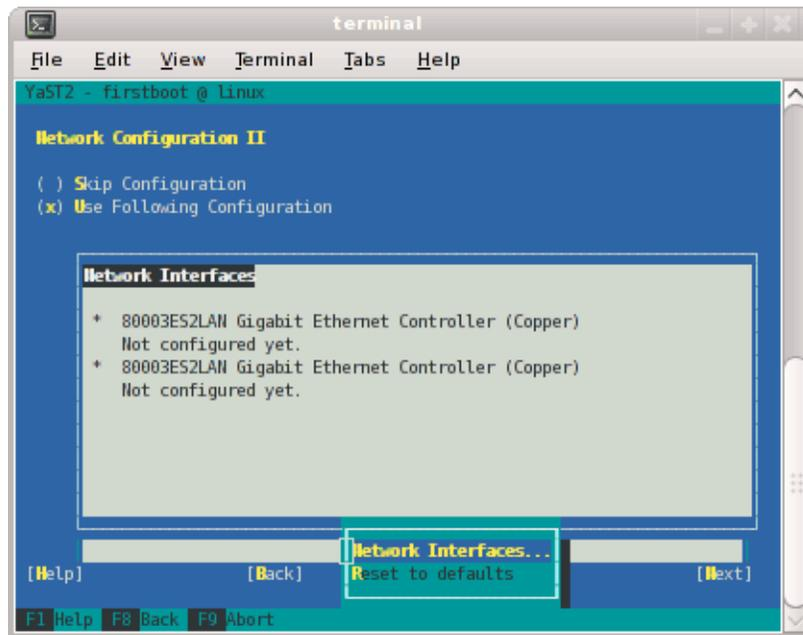

Figure 1-5 Network Configuration II Screen
6. The **Network Configuration II** screen appears, as shown in Figure 1-5 on page 6. Select **Change** and a small window pops up that lets you choose **Network Interfaces...** or **Reset to Defaults**. Choose **Network Interfaces**.